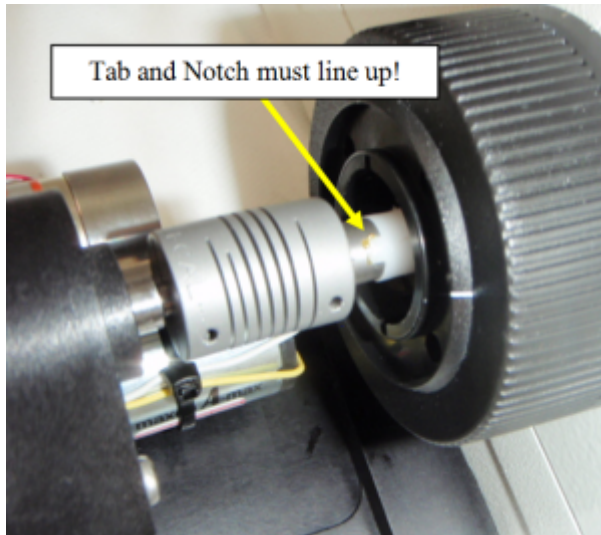
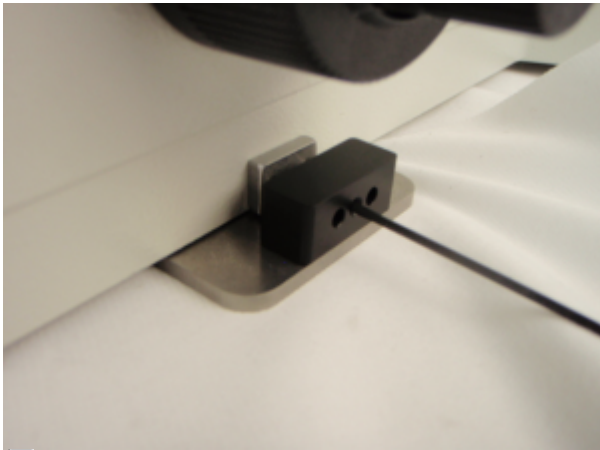

Figure 3d
Figure 4d
- d) Aligning the notch and tab, push the shaft coupler till the unit is snug up against the tab as shown in figure 3d.
- d) Once the drive unit is aligned, and alignment screws tightened, ensure the flex shaft notch is still up against the tab (figure 3d) and tighten the drive shaft clamp, as shown in figure 4d below using a 2mm hex wrench. Repeat Steps a-d till minimum drag is felt on right fine focus knob.